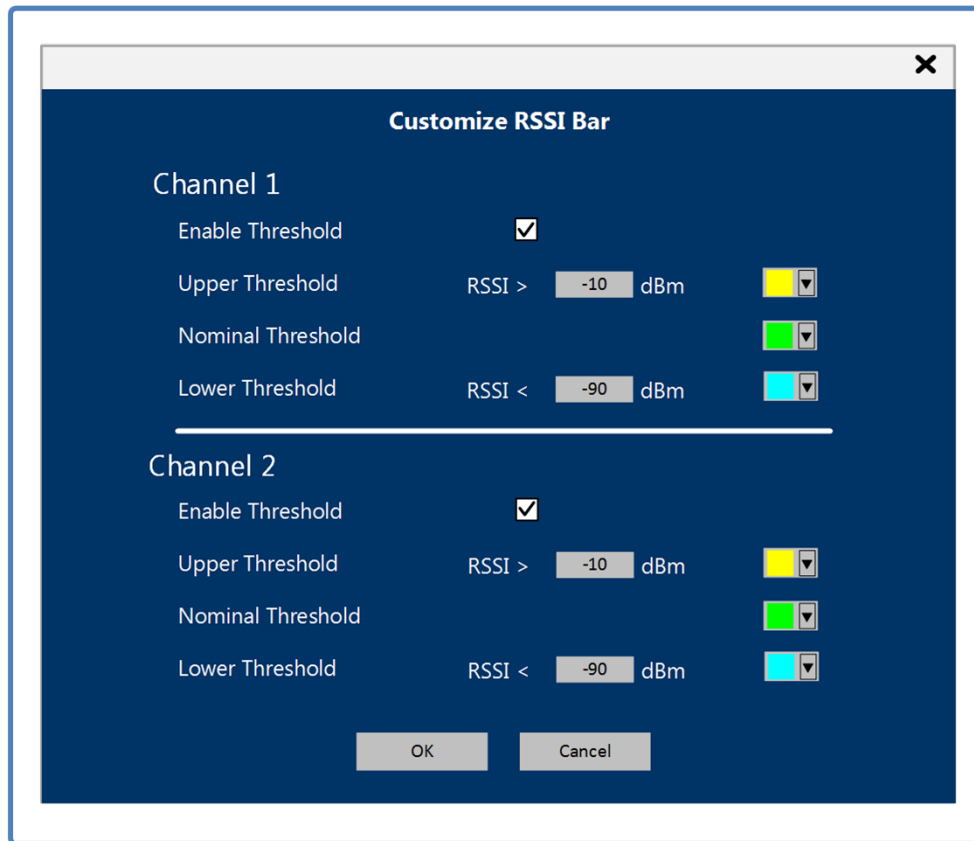

Figure 4-20 Tools – Customize RSSI Bar Color Controls
- g. Customize RSSI Bars – This tool allows the user with the ability to customize the RSSI bar graphs to indicate various receiver signal levels. If enabled, three different colors will be displayed for the individual receiver channel bars based on two different user selected threshold settings. Colors are selectable for and upper, nominal, and lower threshold levels. Threshold breakpoints are entered as dBm levels for only the upper and lower levels. Figure 4-20 illustrates the control interface for customizing RSSI display bars.